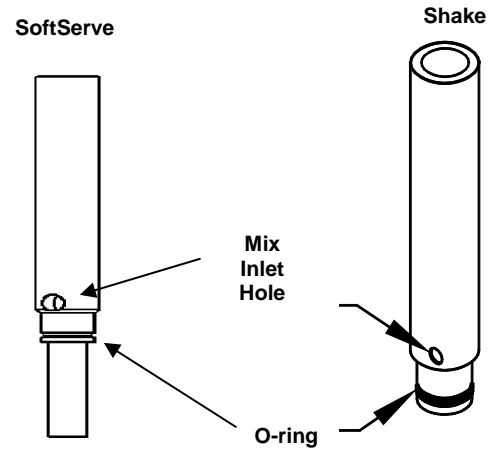

**Fig. 6
- d. Remove the o-rings from the spigot plunger by grasping the part with one hand and with a dry cloth in the other hand, squeeze the o-ring upward. When a loop is formed, grasp the o-ring with the other hand and roll it out of its groove and off the part (Fig. 6).